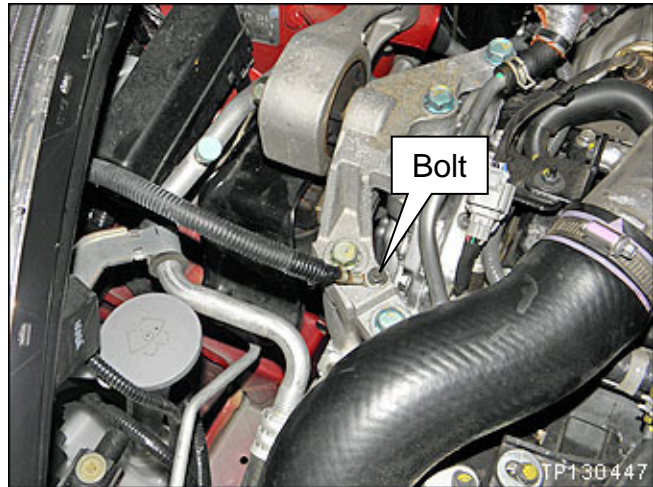

Figure 16
21. Remove the bolt holding the engine ground wire shown in Figure 16.